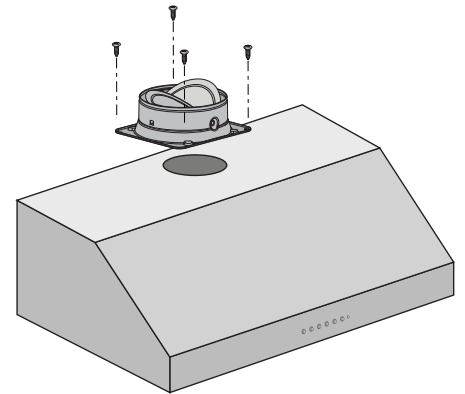

Figure 1
- Position the damper on top of the unit and set in place with screws provided (see Figure 1).